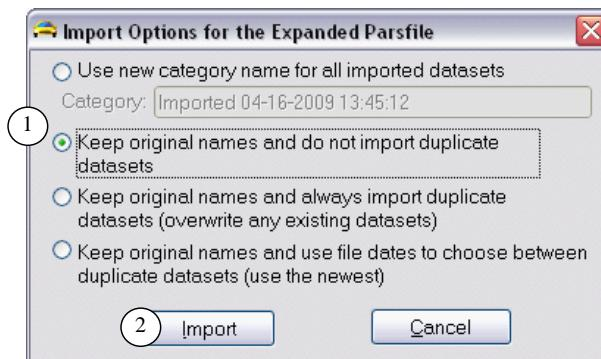

Figure 75. Import options for an expanded parsfile.
Next, you will be prompted to select an import option for possible dataset name conflicts (Figure 75); check that the option **Keep original names and do not import duplicate datasets** ① is selected, and then click the **Import** button ②.